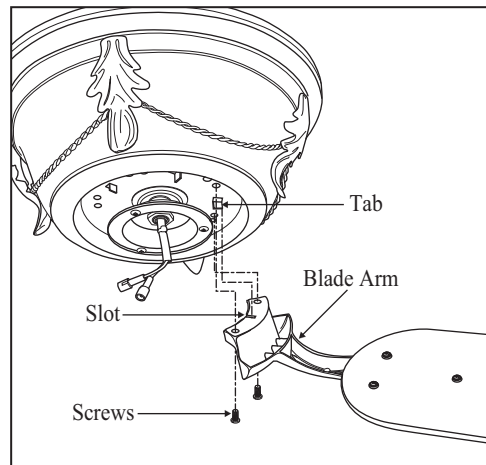

Figure 16
3. Fasten the blade assemblies to the motor housing by lining up the slots of the blade arms with the tabs on the motor housing, then tighten the two screws and washers already installed in the blade arms. (Figure 16)